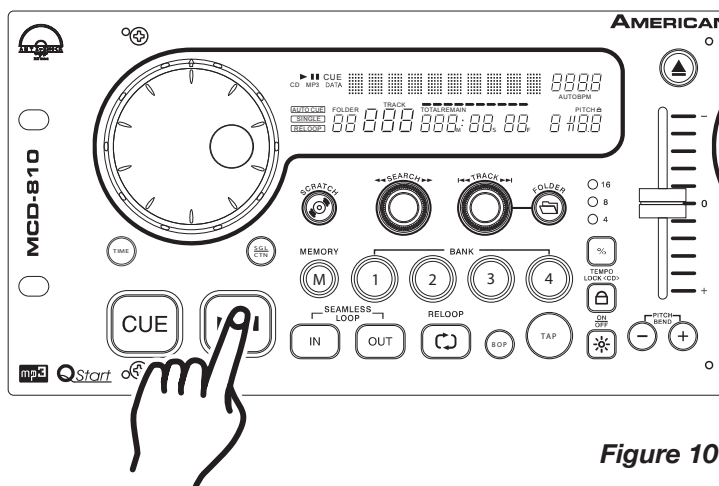
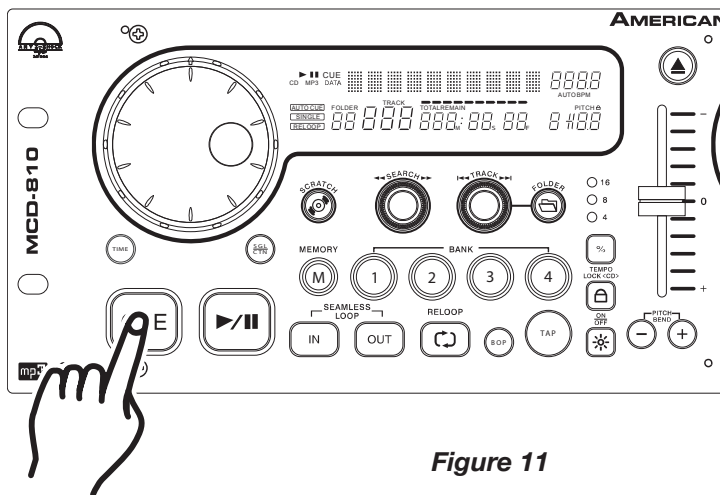
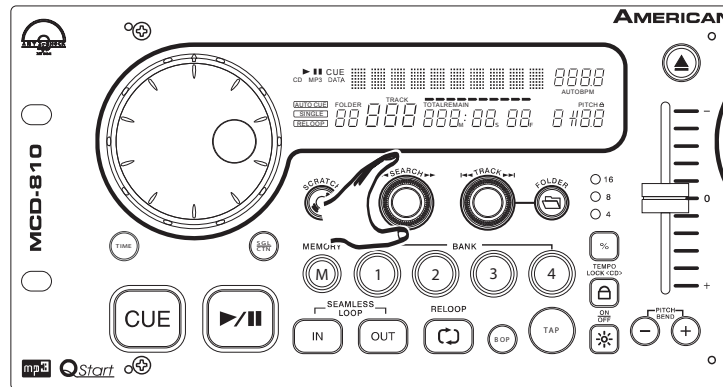

Figure 10
Figure 11
Figure 12
3. STARTING PLAYBACK - Figure 10
5. STOPPING PLAYBACK - Figures 10 & 11
- 1) Press the **PLAY/PAUSE BUTTON (22)** during playback. This will pause playback at the exact same point the **PLAY/PAUSE BUTTON (22)** was pressed.
- 2) Press the **CUE BUTTON (23)** during playback. This will pause playback and return the track to the last set cue point.
6. PAUSING - Figure 10
This feature allows you to scroll through a track frame by frame, allowing you to find and set a starting cue or loop point. To use the scroll function you must first be in Pause Mode (see section 5) or Cue Mode (see section 9). Once you are in Pause or Cue mode, turn the **SEARCH KNOB (6)** to scroll through the track (Figure 12). Turning the knob in a clockwise direction will advance the frame search and turning the knob in a counter-clockwise direction rewinds the frame search. When you use the **SEARCH KNOB (6)** the monitor (headphone level) function allows you to hear what you are scrolling through. Once you reach your desired starting point you can set a cue (starting) point by pressing the **PLAY/PAUSE BUTTON (22)** as in Figure 10. Pressing the **CUE BUTTON (23)** as in Figure 11 will now return you to the point you just set.